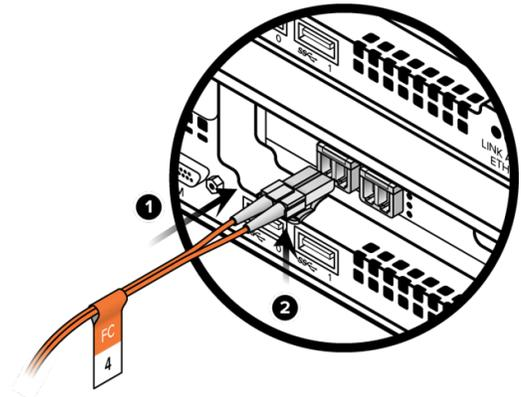

Figure 11-19. Connecting a Host Cable (FC Shown)
2. Push the connector into the transceiver (optical) or port socket (10-GbE copper). See Figure 11-19.